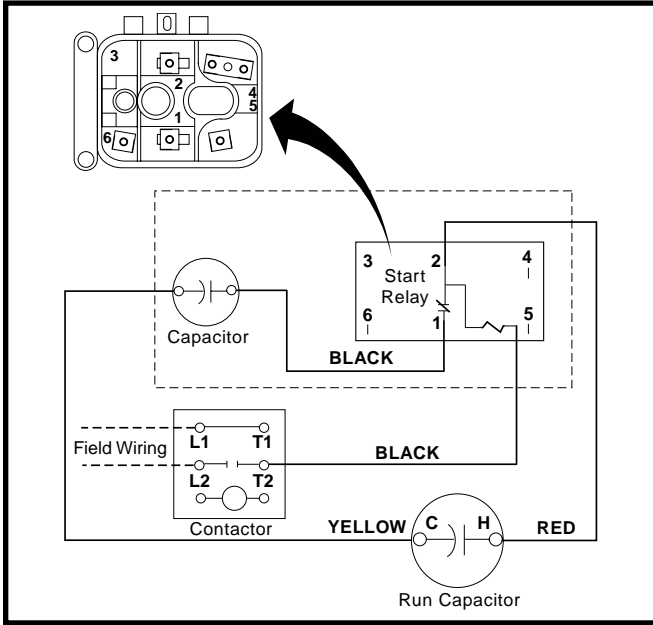

Figure 1. Wiring Diagram
6. Connect the **BLACK** wire (Figure 1) from **TERMINAL 5** on the start relay to **T2** on the contactor.